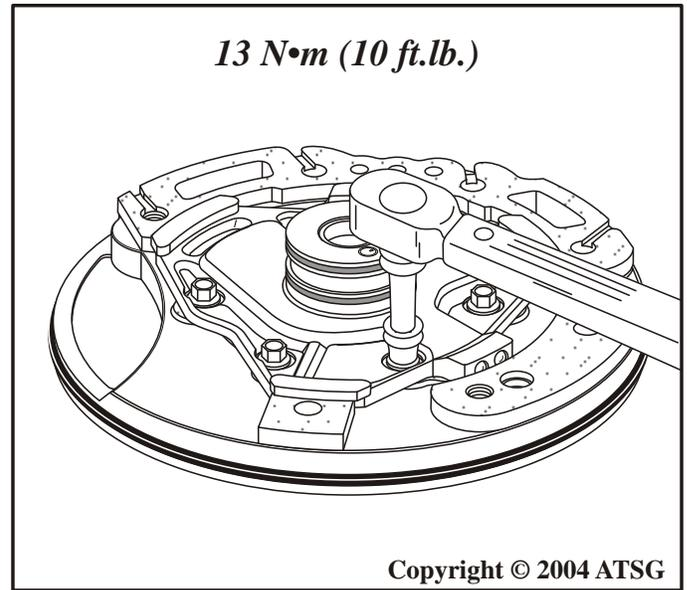

Figure 62
18. Torque the six pump stator retaining bolts to 13 N•m (10 ft.lb.), as shown in Figure 62.